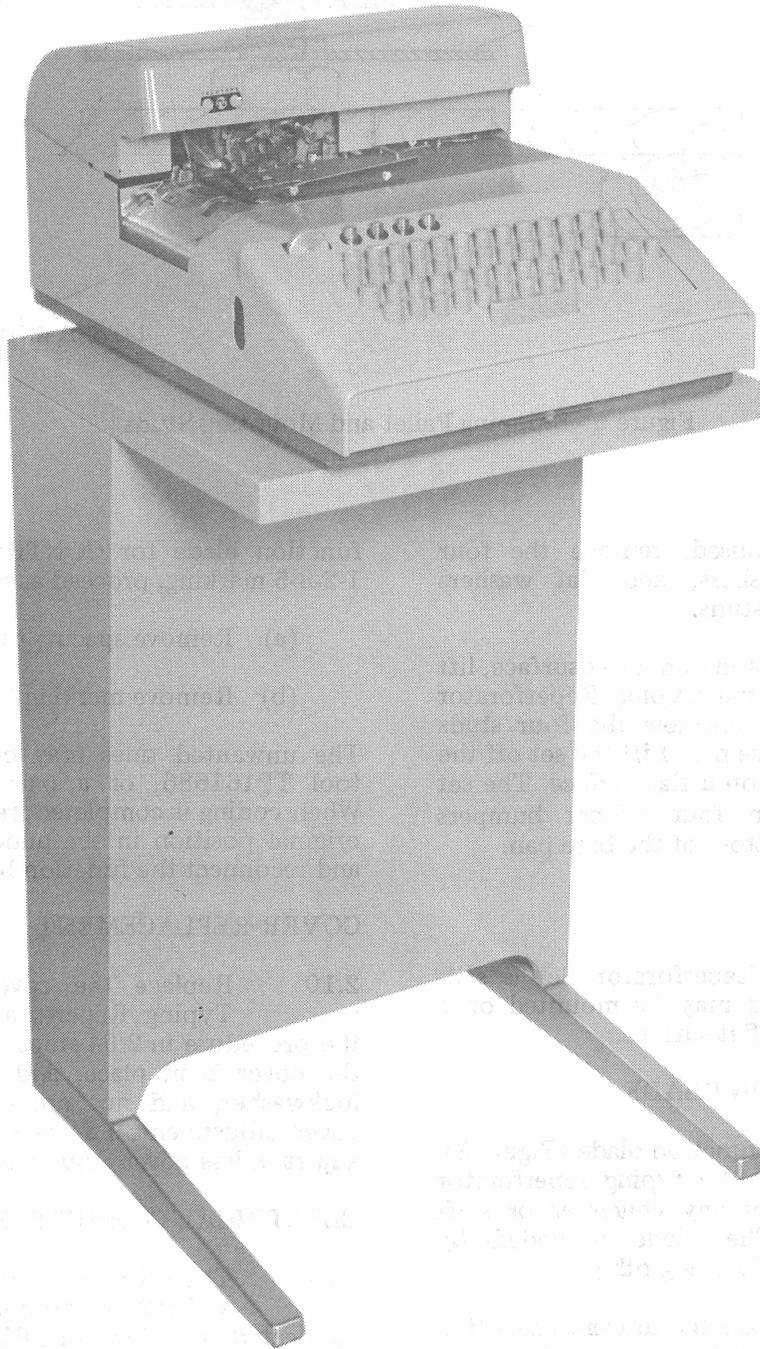

Figure 7 - Edge Punched Card Typing Reperforator Set — Typical Installation
2.06 The Typing Reperforator Set is self-contained and may be mounted on a table (Figure 7), or any flat surface.